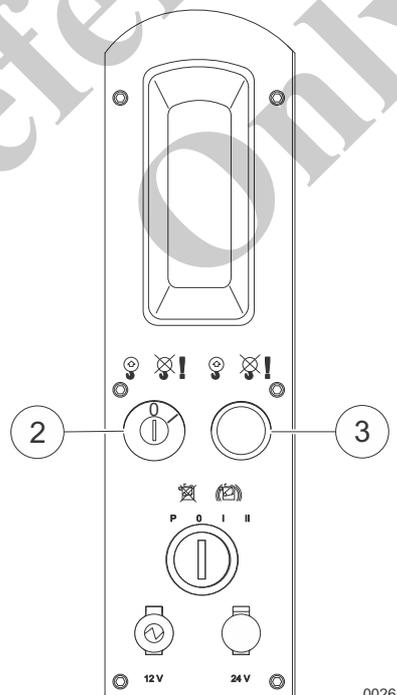

Fig. 74 LML controls
- 1 To bypass the LML, turn the key switch (2) in Fig. 74 while pressing the push-button (3) in Fig. 74.
The bypass is terminated by releasing the key switch (2) in Fig. 74 or the push-button (3) in Fig. 74, or by turning the ignition off then back on again.